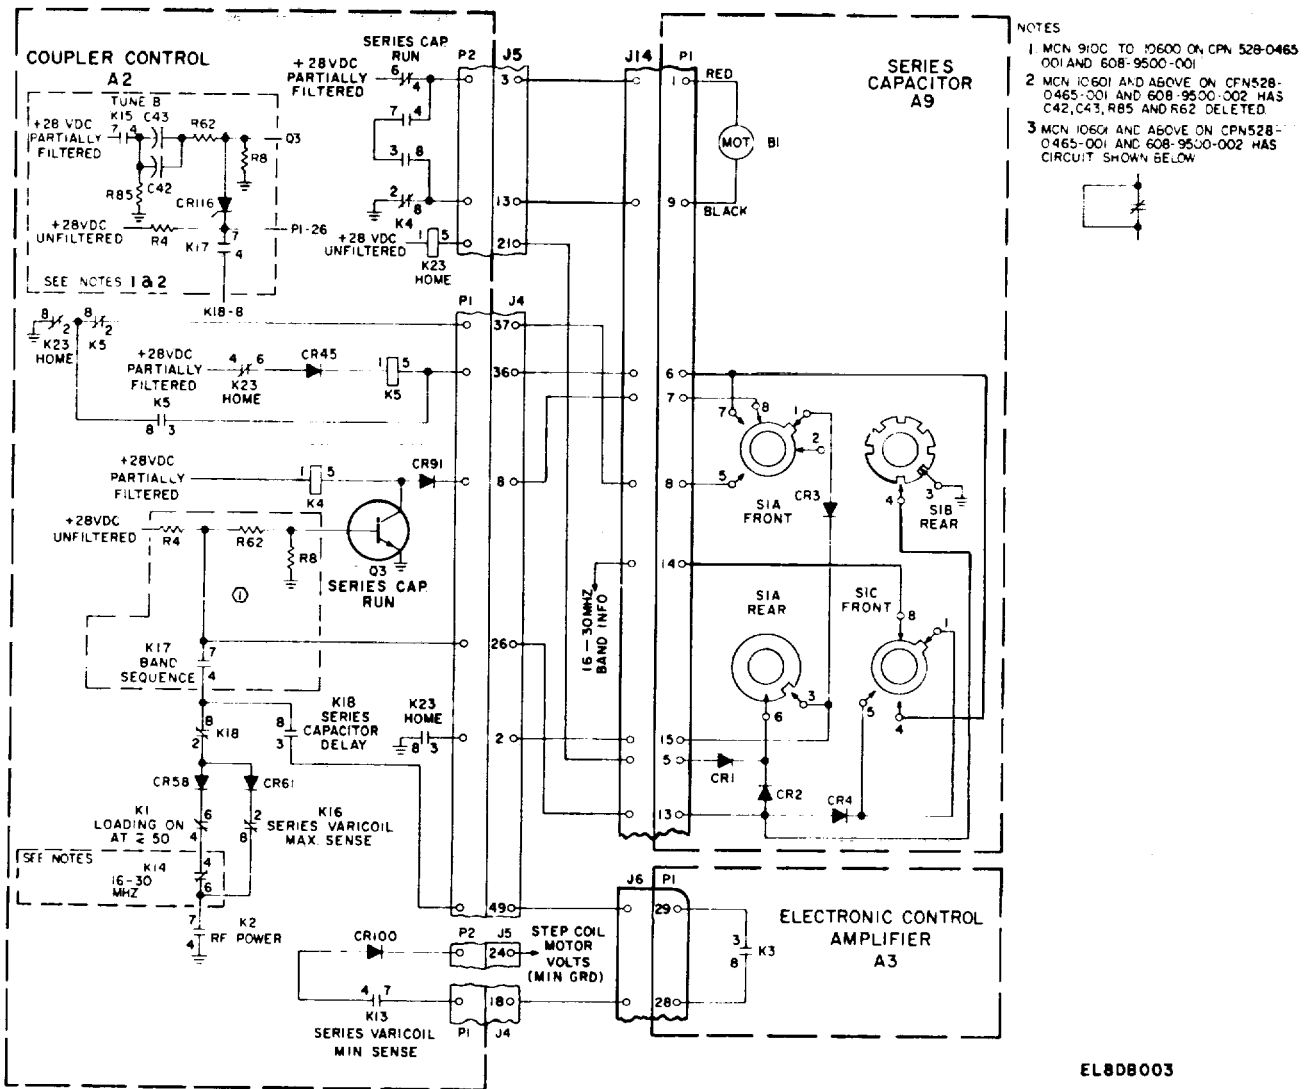

Figure 2-6. Series Capacitor A9 Motor Circuit, Simplified Schematic Diagram.
j. If series capacitor A9 (fig. 2-6) is not in the *home* position, a holding ground is supplied to A2K23-5 through A2K23-8 and -3, A2P1-2, A9P1-15, A9S1A(R)-3 and -6, A9CR1, A9P1-5, and A2P2-21. A2Q3 base bias circuit is grounded through A2K23-8 and -3, A2P1-2, A9P1-15, A9S1A(R)-3 and -6, A9CR2, and A2P1-26. When A2Q3 is disabled, A2K4 is restored, removing the short circuit across series capacitor drive motor A9B1. The +28 volts dc is supplied to A9B 1. The + 28 volts dc is supplied to A9B 1 through normally-closed A2K4-6 and -4, A2P2-3, and A9PI-1. Ground is supplied to A9B1 through normally-closed A2K4-2 and -8, A2P2-13, and A9PI-9. When series capacitor A9 reaches *home* position, A9S1A(R)-3 opens, and removes ground from A2K23 and from A2Q3 base bias circuit. A2Q3 conducts, operating A2K4. A2K4-8 and -3 and A2K4-7' and -4 complete a short circuit across A9B 1 providing dynamic braking.
b. RF power through band relay A1K2 (fig. 2-6. 1) from either the antenna system or frequency band information circuit (para2-5) develops discriminator error outputs. Error signals are fed to coupler control A2 for sequencing and to electronic control amplifier A3 for amplification by servoamplifiers (para 2-13).